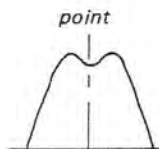

Fig. 1
2. Adjust the output level of the am rf stereo signal generator for dip point as shown in Fig. 1.